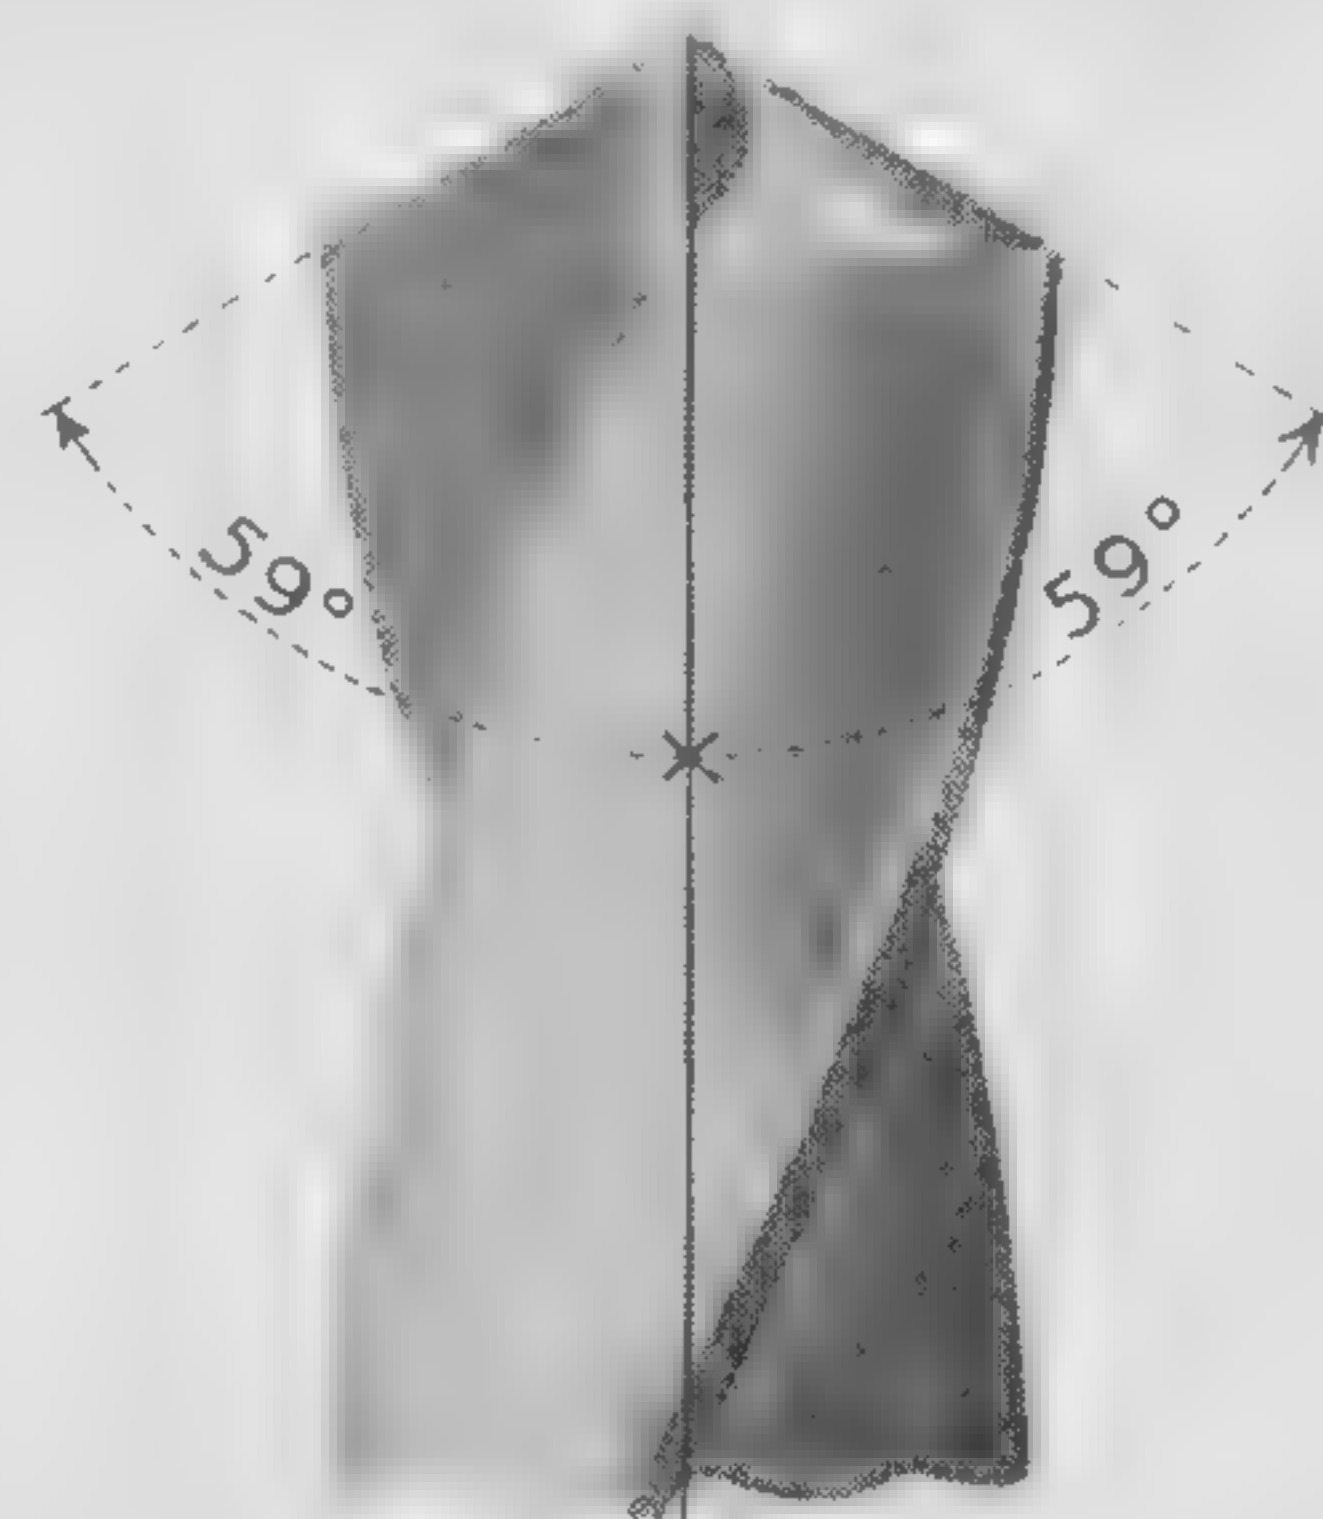

Fig. 23. Lips Ground Correctly
2. The angle of the cutting lips should be 59° , see Fig. 23. This angle also can be tested with the drill point gage.
An included angle on the lips of 118° is considered the best for general duty drilling, Fig. 23. But, when unusually hard metal is to be drilled the angle on the lips should be increased to between 125° and 150° . For soft metals, the lip angle may be decreased to approximately 90° or less. These angles can be gaged accurately with a bevel protractor.